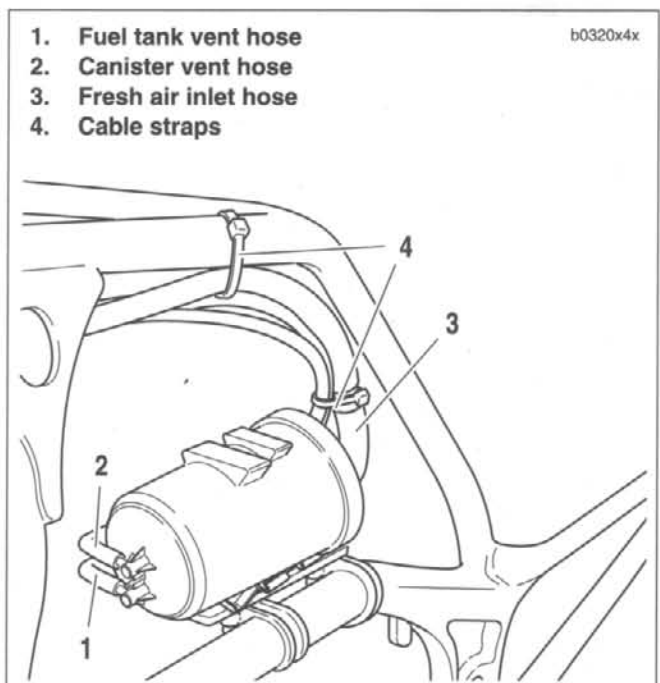

Figure 4-110. Typical Carbon Canister Installation.
- See Figure 4-110. When the engine is running, manifold venturi negative pressure (vacuum) slowly draws off the hydrocarbon vapors from the carbon canister through the canister vent hose. These vapors pass through the throttle body manifold and are burned as part of normal combustion in the engine. The large diameter canister-to-air cleaner backplate hose (canister fresh air inlet hose) supplies the canister with fresh air from the air cleaner.
2. See Figure 4-110. If necessary, label fuel tank vent hose (1) at canister fitting and remove.
1. See Figure 4-110. The canister assembly mounts on a frame tube along the left side of the motorcycle.
2. See Figure 4-110. Attach fuel tank vent hose (1) to canister if disconnected.
4. See Figure 4-110. Connect all three hoses to the canister. Make sure to push fuel tank vent hose all the way on to carbon canister fitting and position hose clamp on fitting side of barb.
1. See Figure 4-110. Connect one end of the canister fresh air inlet hose (3) to the carbon canister.